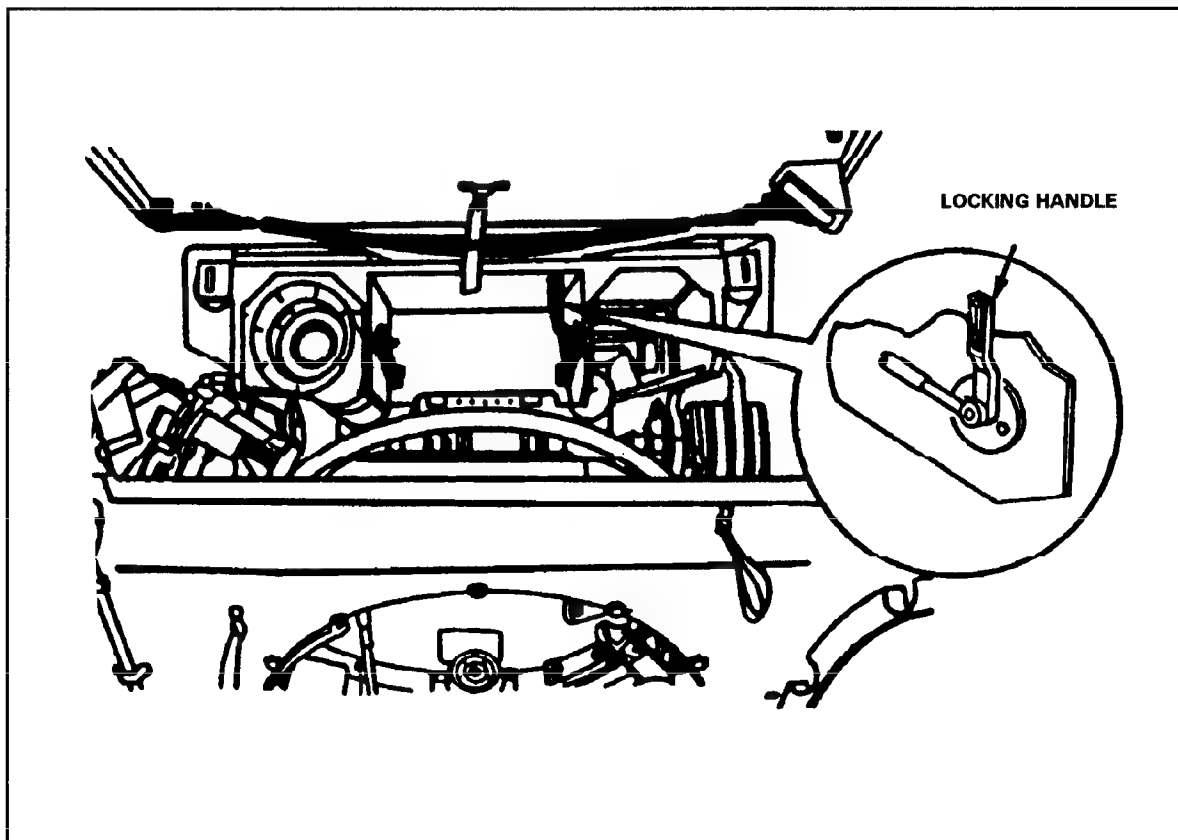

Figure 4-5. Locking handle.
(1) The loader opens the cargo hatch to the first detent. He secures the encased missile and places indexing lugs on the launcher rail and slides the missile forward until the front of the missile seats against the forward centering ring. He holds the missile in place while pulling down the locking handle (Figure 4-5, page 4-10) (He repeats the procedure for the other missile if two missiles are to be loaded.) The loader closes the cargo hatch by releasing the cargo hatch detent lock lug and pulling down on the cargo hatch strap.
(2) Once the launcher has been loaded, the gunner moves the MODE SELECT switch to ERECT. He pushes the ERECTION DRIVE switch up and holds until the LAUNCHER ERECT, LAUNCHER READY, AZ LOAD, and ELEV LOAD indicators are lit. Then, he traverses the turret to about 180 degrees (the AZ STOW indicator light should come on) and depresses the launcher until the ELEV STOW indicator lights. He moves the MODE SELECT switch to STOW and pushes the ERECTION DRIVE switch up and holds it. The STOW position indicator will light when the launcher is in the stow position (at this time the LAUNCHER ERECT and LAUNCHER READY indicators should be off); if the indicator lights go off, the gunner erects the launcher and repeats the stowing procedures. Once the launcher is in the STOW position, the gunner moves the TURRET POWER switch to OFF.